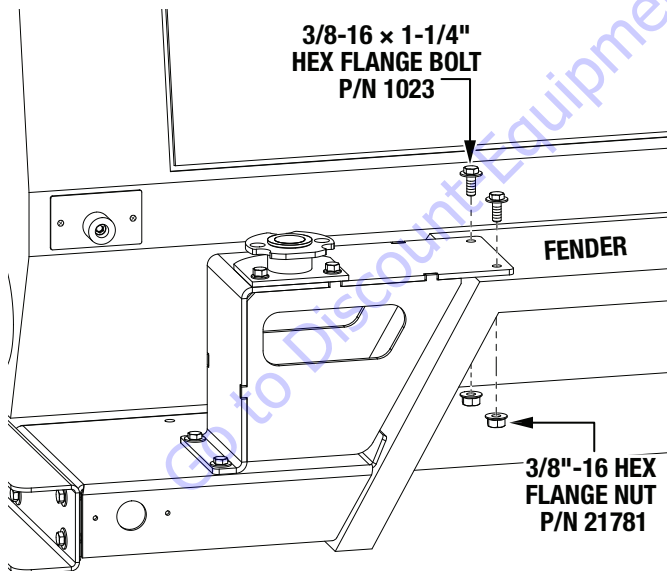

Figure 19. Secure Pivot Base to Fender
- Insert two 3/8-16 x 1-1/4" hex flange bolts (P/N 1023) through the new holes in the fender with two 3/8"-16 hex flange nuts (P/N 21781), and tighten securely. See Figure 19.